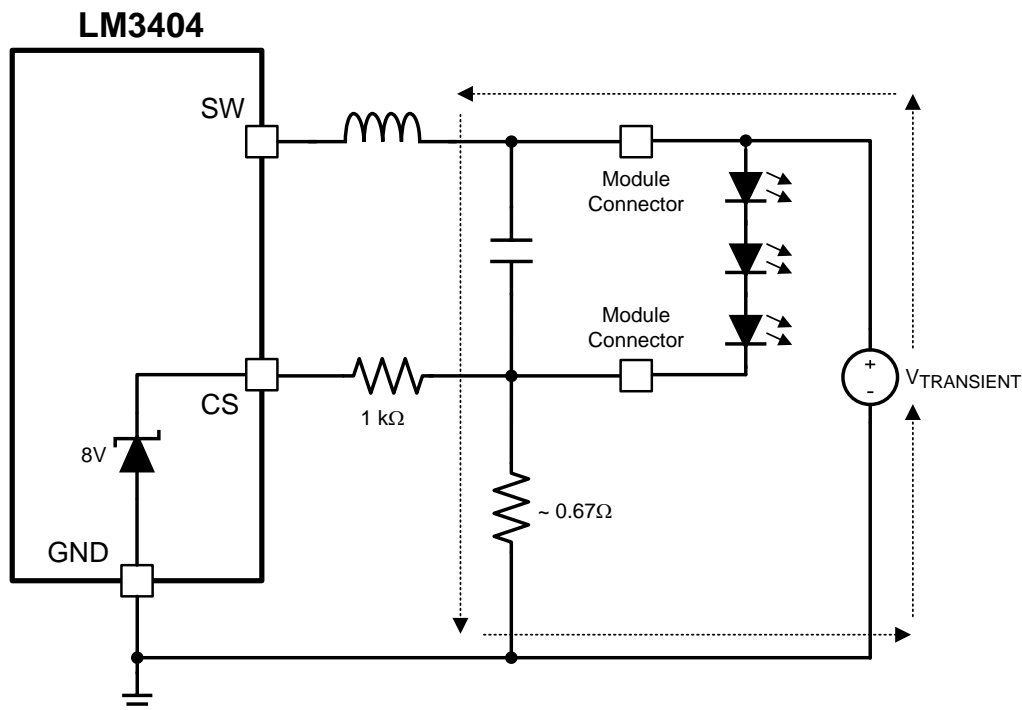

Figure 22. CS Pin, Transient Path With Protection
When hot swapping in a load (that is, test points, load boards, LED stack), any residual charge on the load will be immediately transferred through the output capacitor to the CS pin, which is then damaged as shown in Figure 22. The EOS event due to the residual charge from the load is represented as  $V_{\text{TRANSIENT}}$ .
From measurements, we know that the 8-V ESD structure on the CS pin can typically withstand 25 mA of direct current (DC). Adding a 1-k $\Omega$  resistor in series with the CS pin, shown in Figure 22, results in the majority of the transient energy to pass through the discrete sense resistor rather than the device. The series resistor limits the peak current that can flow during a transient event, thus protecting the CS pin. With the 1-k $\Omega$  resistor shown, a 33-V, 49-A transient on the LED return connector terminal could be absorbed as calculated by: